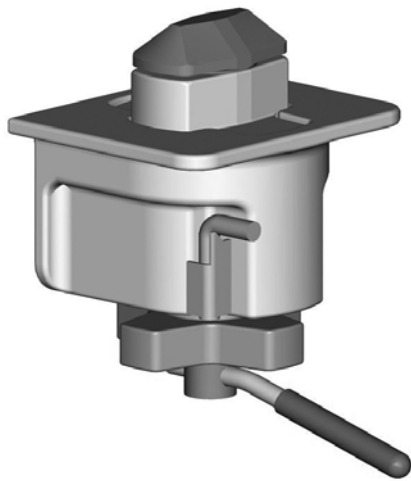

Figure 5a
- 4.3 Retractable Screwdown, as per figures 5a and 5b. This is the same as 3a and 3b with the additional feature of the stem being able to be clamped to the inner surface of the corner fitting thereby reducing relative movement. Additional benefits are reduced noise and vibration, together with reduced stress on the chassis, container and the load.